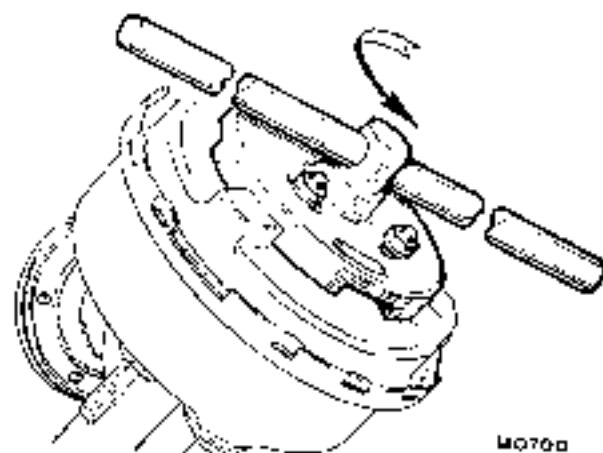

Fig. M.11
10. To remove the end cover from the servo shell, locate Service tool C2030* over the three studs and secure tightly with suitable nuts (see Fig. M.11). Turn the removal tool anticlockwise with a 1/2 in. (13 mm.) square drive socket "T" bar as far as the stops on the cover will allow and lift off the cover.
20. Refit and secure Service tool C2030* to the end cover (see Fig. M.11). Position the end cover with the shell so that the elbow will be in alignment with the air valve. Whilst maintaining a downward pressure on the cover, turn it clockwise as far as the stops will allow, taking care not to trap the edge of the rubber diaphragm. Remove the Service tool.